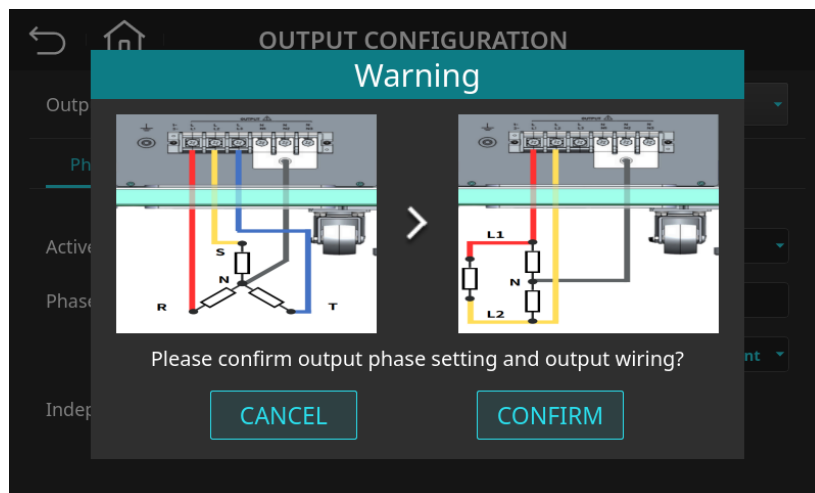

Figure 4-24: Phase Mode Switching Warning Page (Switching from Three Phase to Split Phase)
3. After confirming the output wiring is in split-phase mode, press the “CONFIRM” button, as shown in Figure 4-24.